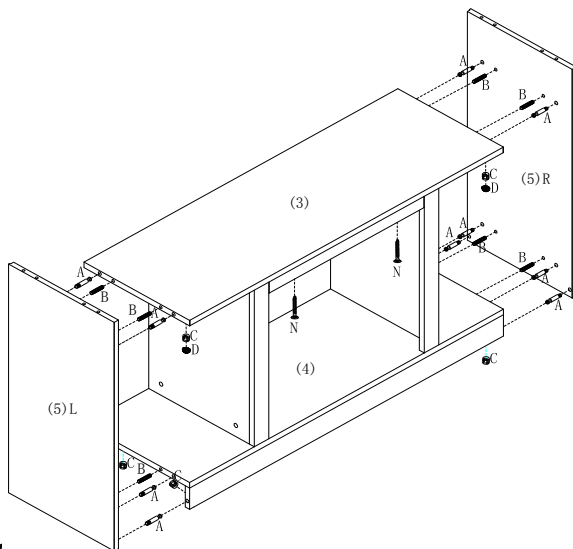

Figure 2
INSERT 12PCS CAM-BOLTS(A) AND 8PCS WOOD DOWELS(B) INTO PREDRILLED HOLES ON INSIDE OF SIDE PANEL (R&L) (5),AND FIT INTO CORRESPONDING HOLES ON ENDS OF ASSEMBLED UNIT,THEN INSERT 12PCS CAM-LOCK(C) INTO BIG HOLES ON INSIDE OF ASSEMBLED UNIT WITH SLOT FOR SCREWDRIVER FACING OUTWARD. ROTATE CAM-LOCKS (C) CLOCKWISE TO SECURE CAM-BOLTS (A). PUSH COVERS (D) INTO CAM-LOCKS (C).THEN USE LONG FLAT HEAD SCREW(N) TIGHTEN MIDDLE FRONT PANEL (2) AS FIGURE 2 SHOWN.